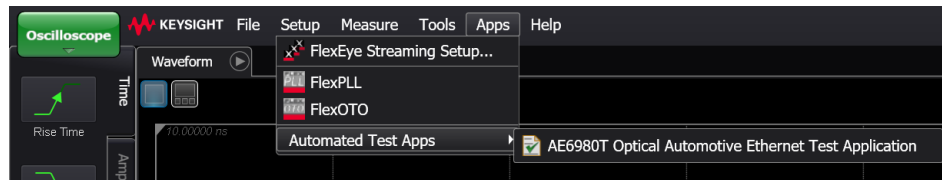

Figure 2-11 Start the AE6980T Optical Automotive Ethernet Test Application
- 1 From the FlexDCA's main menu, choose **Apps > Automated Test Apps > AE6980T Optical Automotive Ethernet Test Application** to launch the AE6980T Optical Automotive Ethernet Tx Compliance Software as shown in Figure 2-11.